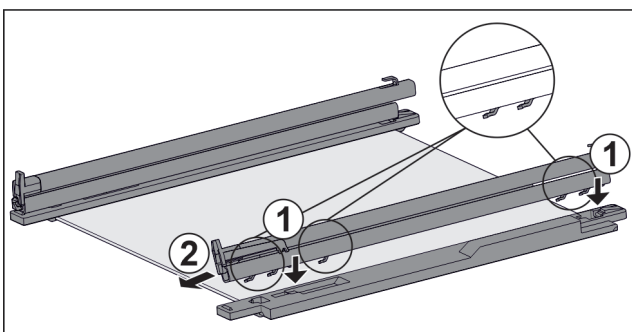

Fig. 126 Glass shelf with rails and retaining parts
- ▶ Place rail hooks onto the openings of the **left** retaining part. Fig. 126 (1)
- ▶ Push rail forwards. Fig. 126 (2)
- ▶ Place rail hooks onto the openings of the **right** retaining part. Fig. 126 (1)